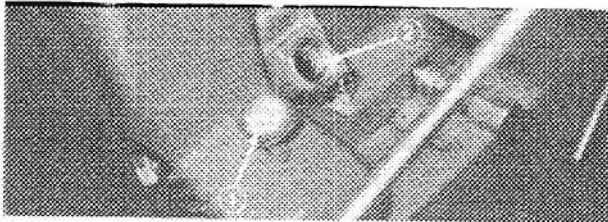

Figure 14
2. Clean the area around the oil filler plug so foreign matter cannot enter filler hole when plug is removed (Fig. 14).
3. Remove filler plug from crankcase (Fig. 14).
4. Slowly, pour 21 ounces (0.621 l) of SAE 5W 30 or SAE 10 oil into the filler hole (Fig. 14). The engine uses any high-quality detergent oil having the American Petroleum Institute – API – “service classification” SC, SD, or SE.